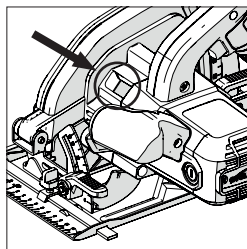

Fig. 3
- Locate the machines arbor lock button. Lock the machines arbor by operating the arbor lock button. (**Fig. 3**)